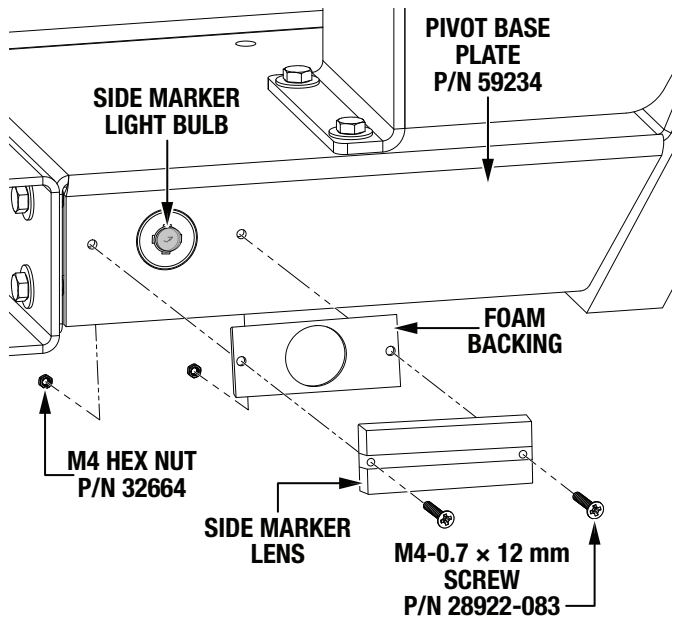

Figure 22. Side Marker Installation
5. Place the side marker light bulb socket into the hole in the pivot base plate (P/N 59234). Secure the side marker lens and foam backing to the pivot base plate with two M4-0.7 × 12 mm screws (P/N 28922-083) and two M4 hex nuts (P/N 32664). See Figure 22.